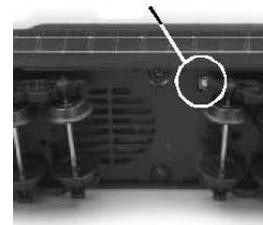

Figure 5. Smoke Switch
2. If you choose not to prime the unit with fluid, turn the smoke unit switch located under the engine to the OFF position (Fig. 5 on pg. 12). Running the engine without a primed smoke unit may cause damage. See the “ProtoSmoke Unit Operation” section of this book for more information on smoke unit maintenance.
- If you choose not to add the fluid (or have already added the fluid but choose to run smoke-free), turn off the smoke unit switch located under the engine body (see Fig. 5). Failure either to add fluid to the unit or to turn it off may damage the smoke unit heating element and/or wicking material.